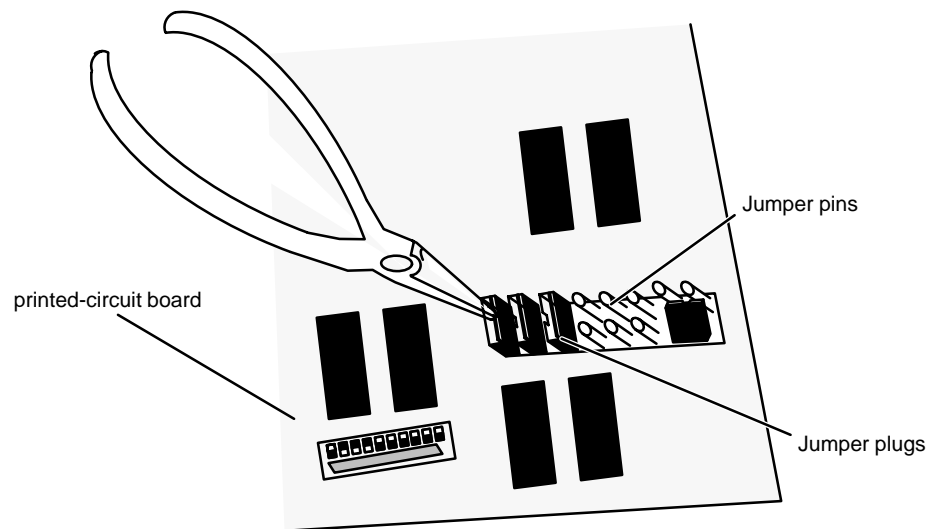

Figure 6-3 Removing or Installing Jumper Plugs
*Jumpers*, or jumper plugs, are small removable plastic posts that contain wire circuit connectors. *Jumper pins* are rows of small metal posts sticking out from the board surface. Figure 6-3 shows a row of jumpered and unjumpered jumper pins.
Figure 6-3 shows how to install and remove jumpers from a typical row of pins.